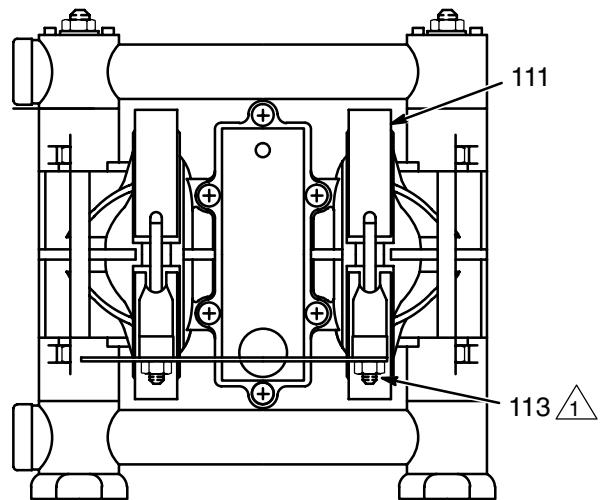

Fig. 9
When tightening the clamps (111), apply thread lubricant to the bolts and *be sure* to torque the nuts (113) to 50 to 60 in-lb (5.6 to 6.8 N·m). See Fig. 9.